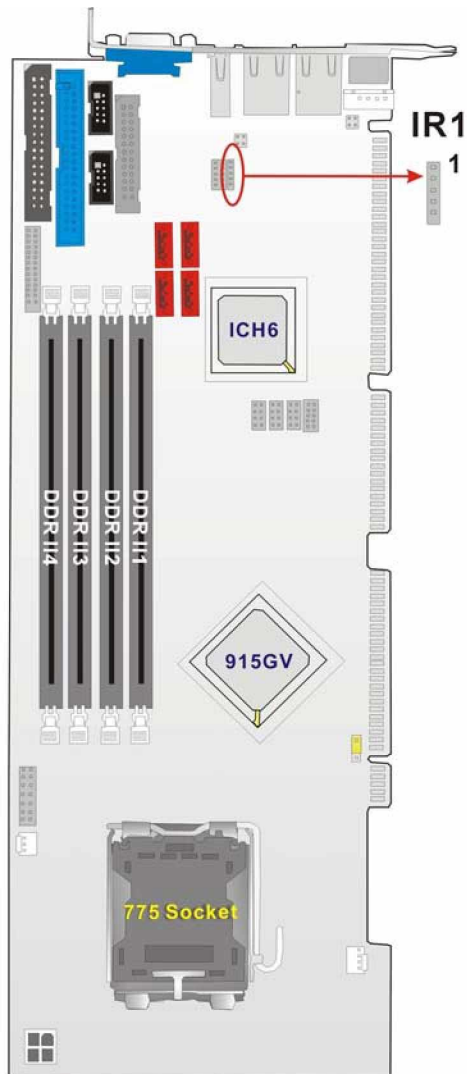

Figure 3-11: IrDA Connector Location
- CN Location:** See Figure 3-11